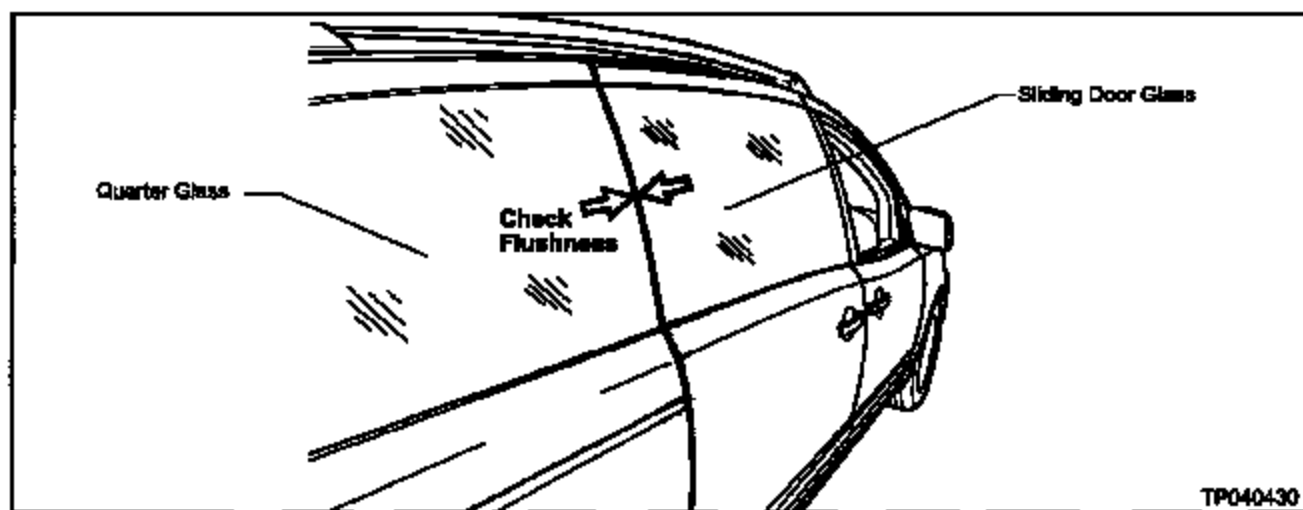

Figure J33
46. Make sure the Sliding Door Glass to Quarter Glass Alignment is as flush as possible (see Figure J33).